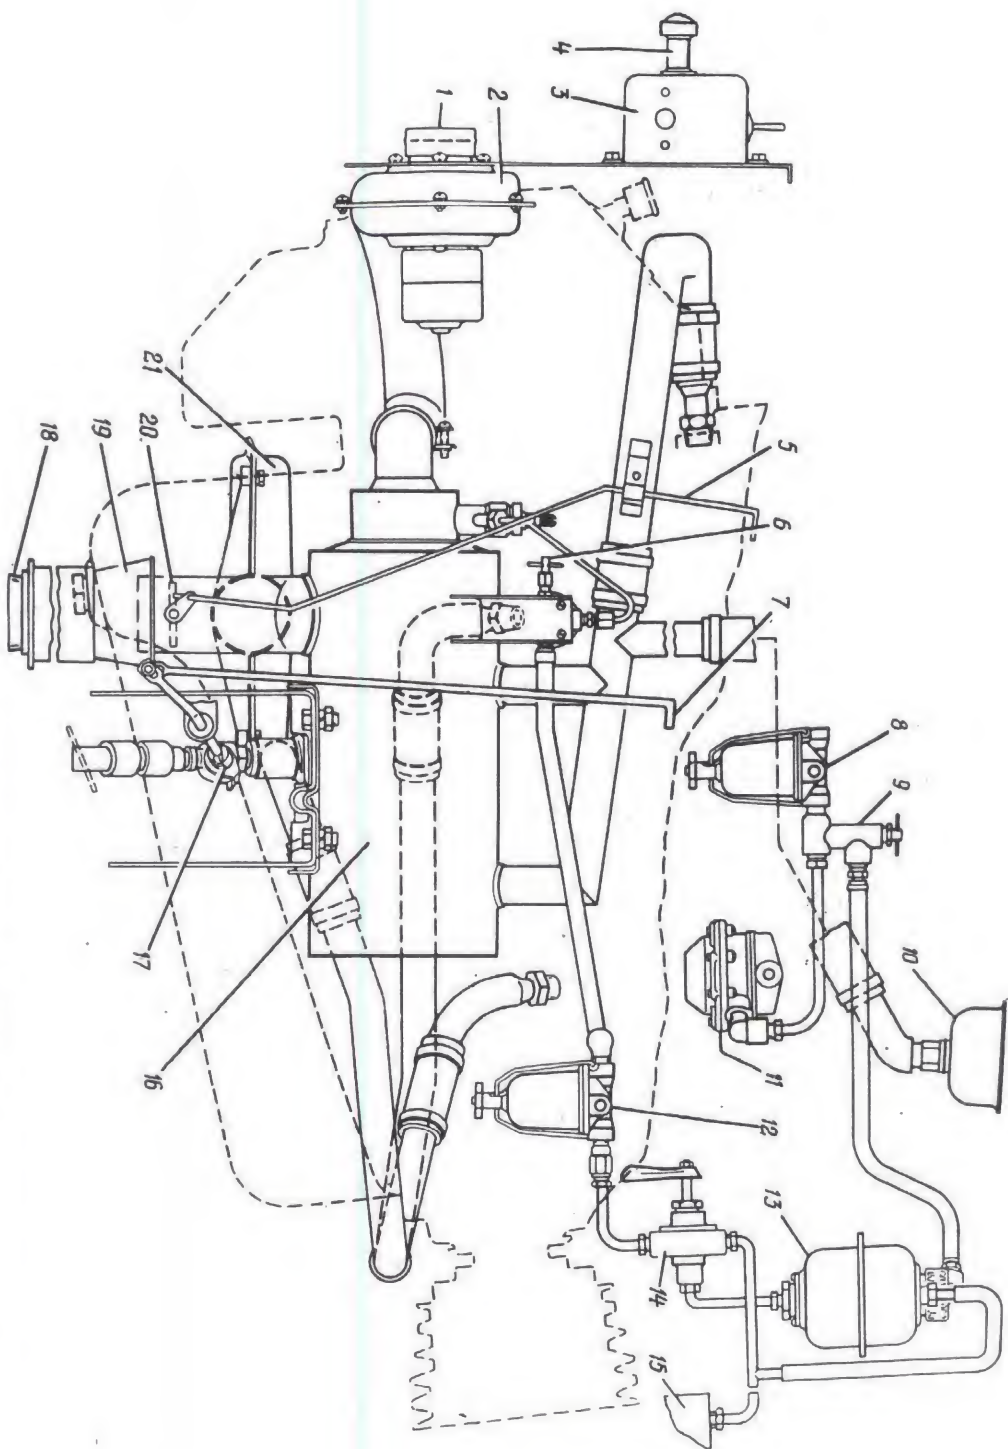

FIG. 157. ENGINE STARTING PREHEATER. INSTALLATION DIAGRAM
During starting the preheater when exhaust gate 20 is open (Fig. 157), gases go outside through the funnel of gas discharge branch pipe 19 and the hole in the vehicle hull bottom.
2. Screw out plug 18 (Fig. 157) in the hull bottom.